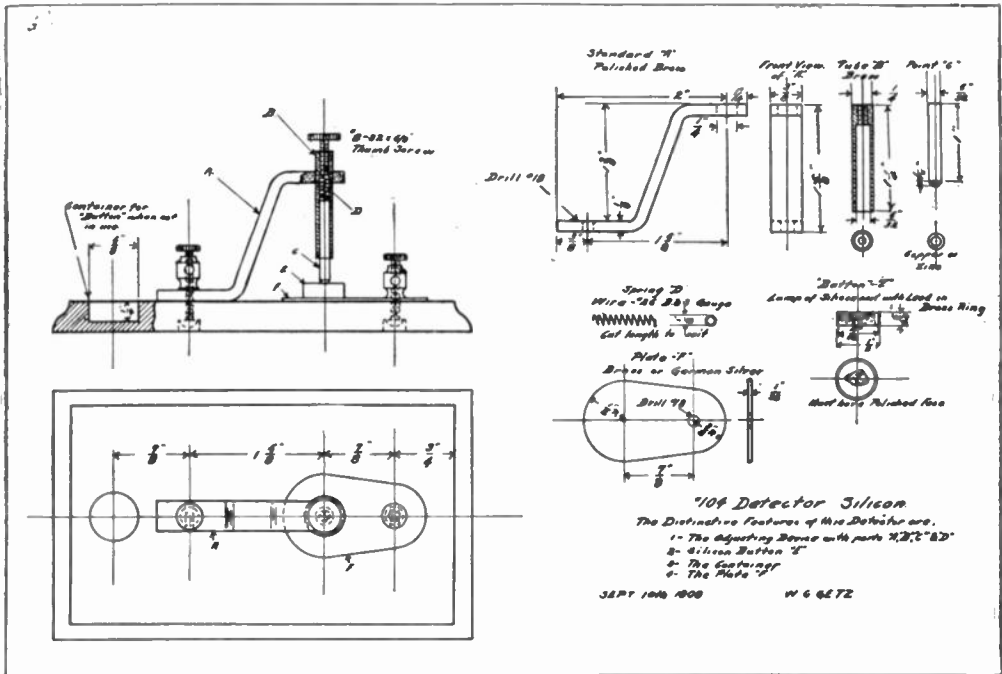

Fig. 2
In Fig. 2 is shown the plan, elevation and details of the No. 104 silicon detector, manufactured and sold by me for a short while in 1908. This detector has a rigid construction that contrasts well with the electrolytic detector previously described.
1508. **Aerial Connections.** H. L., New Haven, Conn. (1) I have an aerial 67 ft. high, four strands 105 ft. long, and I would like to know whether it is best to use Fig. 1, using the wire connected in multiple, or Fig. 2 with the wire connected in series to get the best results. (2) What is the wave length of the above aerial? Ans.—(1) If you cannot tap your aerial from the centre, extend a wire down from each wire at one end, joining the four together in a V shape. (2) Your wave length is about 129 meters.